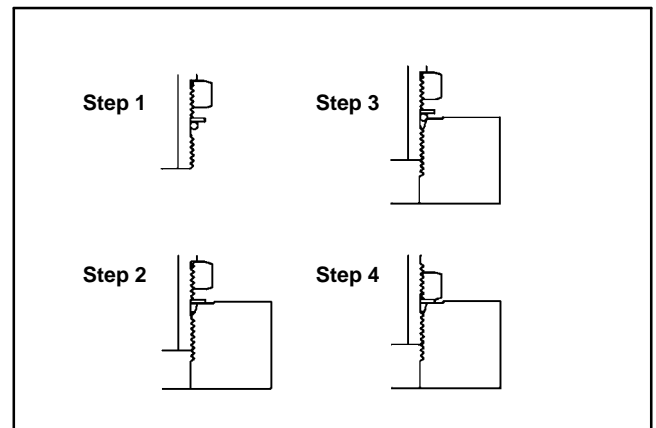

Figure 9
4. Turn back the lock nut as far as possible. Make sure the back up washer is not loose and is pushed up as far as possible (Step 1 in Figure 9).
5. Install the fitting into the port and tighten finger tight until the washer contacts the face of the port (Step 2 in Figure 9). Make sure that the fitting does not bottom in the port during installation.
6. To put the fitting in the desired position, unscrew it by the required amount to align fitting with incoming hose or tube, but no more than one full turn (Step 3 in Figure 9).
8. If a torque wrench is not available, or if space at the port prevents use of a torque wrench, an alternate method of assembly is the Flats From Finger Tight (F.F.F.T.) method. Hold the fitting in the desired position with a wrench and, if port material is steel, tighten the lock nut with a second wrench to the listed F.F.F.T (Step 4 in Figure 9). If port material is aluminum, tighten fitting to 60% of listed F.F.F.T.